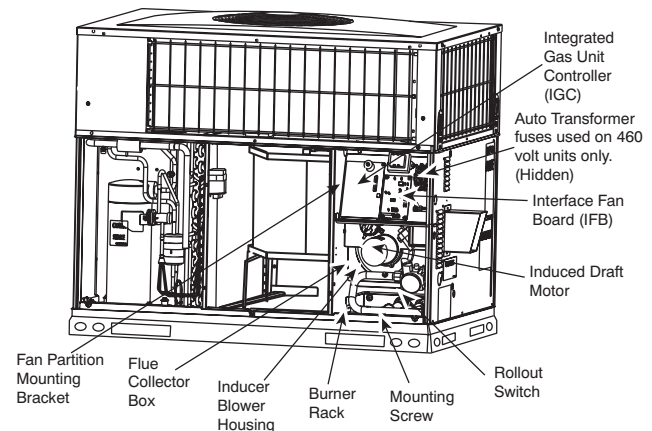

Fig. 21 - Blower Housing and Flue Collector Box
2. Remove the 11 screws holding the flue collector box cover (See Fig. 21) to the heat exchanger assembly. Inspect the heat exchangers.
Unit is equipped with a direct spark ignition 100 percent lockout system. Ignition module (IGC) is located in the control box (See Fig. 21). Module contains a self-diagnostic LED. During servicing, refer to label diagram or Table 7 in these instructions for LED interpretation.
5. Remove fan partition mounting bracket (2 screws located on the left side of control compartment on the fan partition panel). Slide bracket forward, bottom first, to remove. (See Fig. 21.)
7. Remove the mounting screw that attaches the burner rack to the unit base (See Fig. 21).
8. Partially slide the burner rack out of the unit (see Fig. 21 and 24). Remove ignitor and sensor wires at the burner assembly. Remove wires to rollout switch.
9. Slide the burner rack out of the unit (See Fig. 21 and 24).